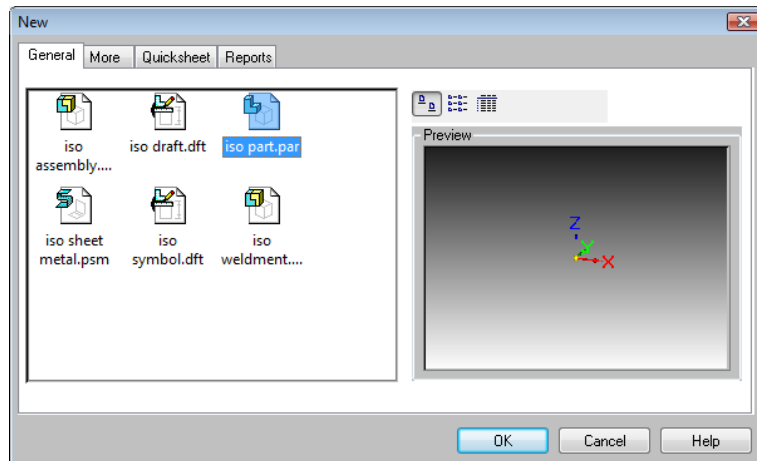

Figure 2-40 The New dialog box to start a new file in Solid Edge
1. Choose the **New** tool from the **Quick Access** toolbar; the **New** dialog box is displayed, as shown in Figure 2-40.
2. In this dialog box, select **iso part.par** from the **General** tab, as shown in Figure 2-40. Next, choose **OK** to start a new part file.